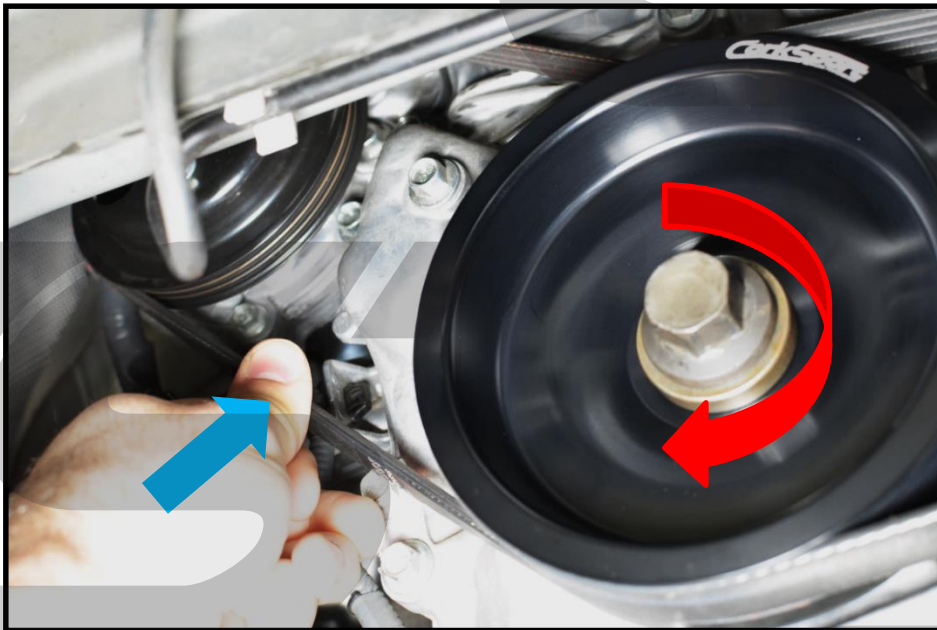

Figure 4a
- c) **Install the water pump belt (aka the stretchy belt).** Shown in **Figure 4a**, place the belt in the inward set of grooves on the crank pulley. Then place the belt around the smooth section of the water pump pulley. Use the 21mm socket and ratchet to rotate the crank clockwise while pushing the edge of the belt towards the engine and into the grooves of the water pump pulley (**blue arrow**).